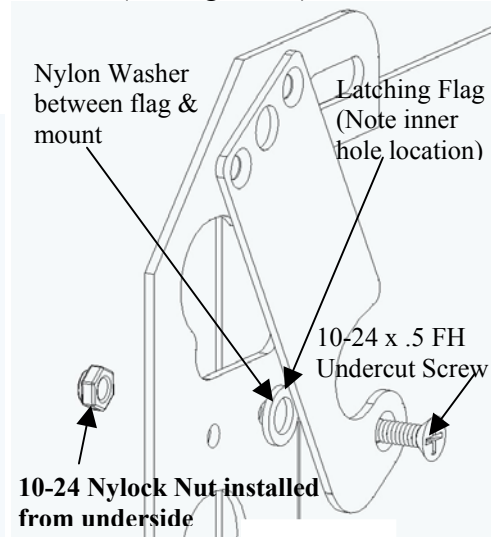

Figure 11
2. Secure latching flag to Plasma Static Mount using .250" OD x .1875" ID x .0312" Nylon washer, 10-24 x .5 FH undercut screw, and 10-24 Nylock nut (see Figure 11).